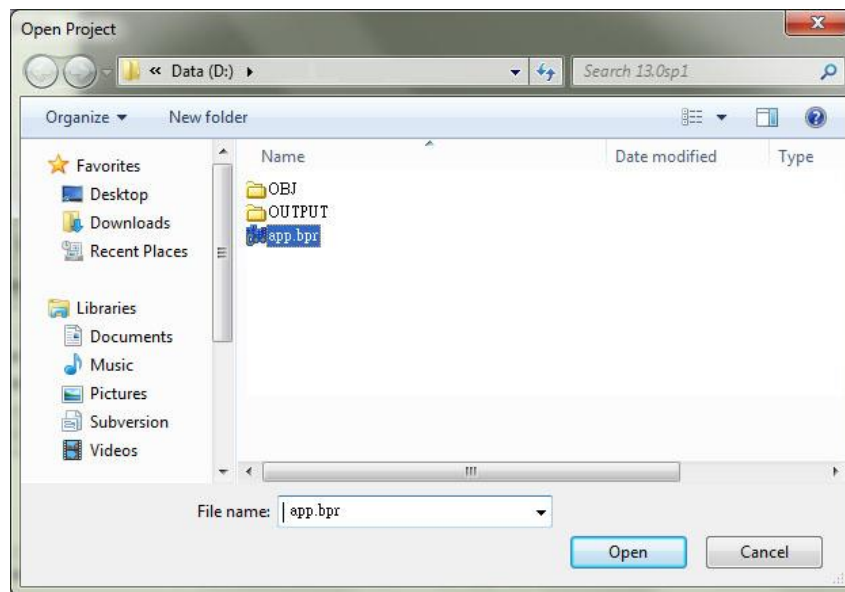

Figure 3-16 Open the project in Borland C++ Builder 6.0
4. Click “File → Open Project”. When the “Open Project” dialog appears, go to the **windows_app_bcb6** folder and select “app.bpr”, as shown in **Figure 3-16**.